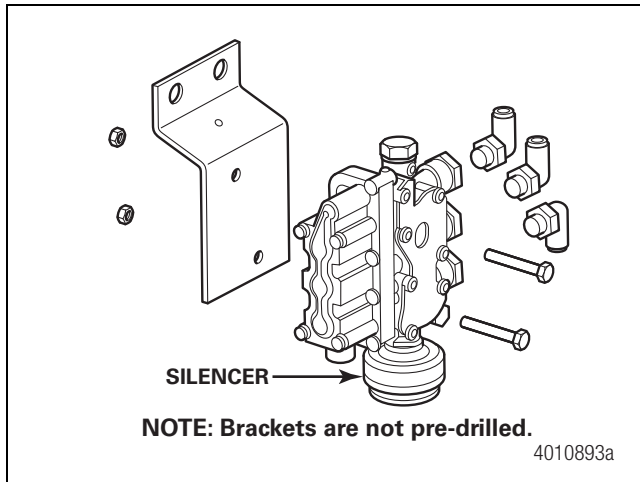

Figure 8
3. Determine the valve mounting location. Verify the valve has correct clearance from the suspension and ensure it is positioned so the valve's exhaust silencer is NOT pointing upward. NOTE: The mounting brackets are not pre-drilled so they can be used for any mounting location. Figure 8.